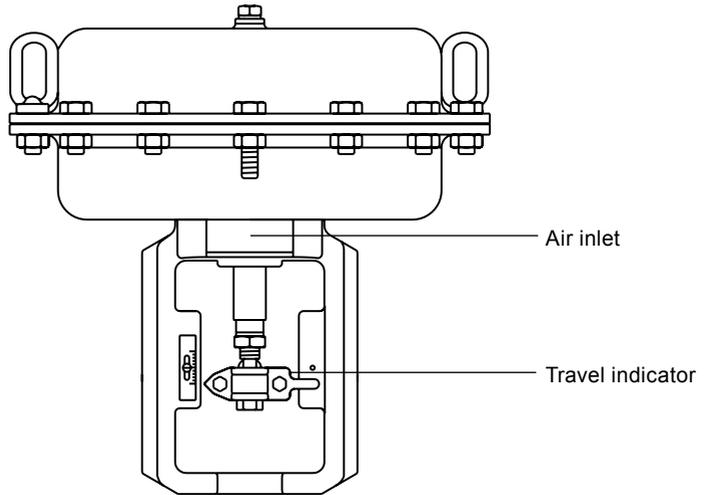

Fig. 7
- For the pneumatic actuated control valve, remove the existing air supply and connect an independent air supply to the actuator (pressure not to exceed 6 bar g [87 psi g]), allow the valve to fully open, remove the air supply from the actuator allowing the valve to close. Reconnect the original pipework (Figure 7).